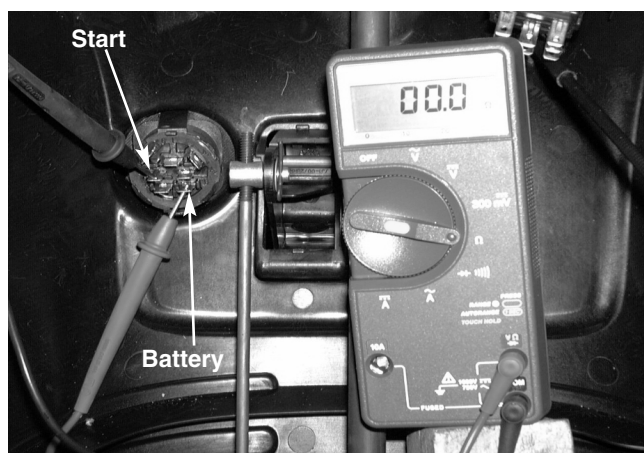

FIGURE 22.
–There will be **CONTINUITY**. See figure 22.